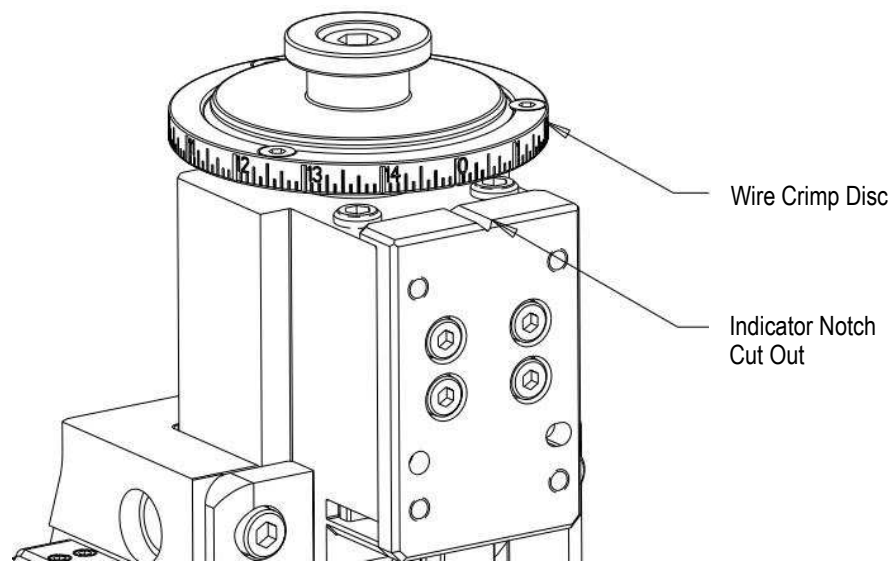

Figure 5
3. Turn the Wire Crimp Disc to line up with the specified crimp height reference setting number with the indicator notch/cut out on the front of the Ram (see Figure 5).